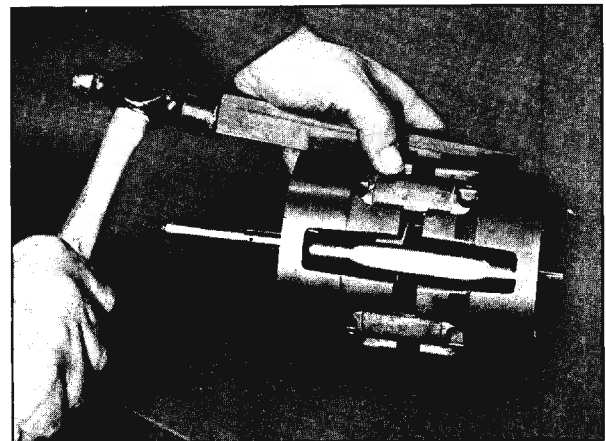

Fig. 15-70 Separating Cylinder Halves
2. Drive the cylinder halves apart using a wood block and hammer. (Fig. 15-70)